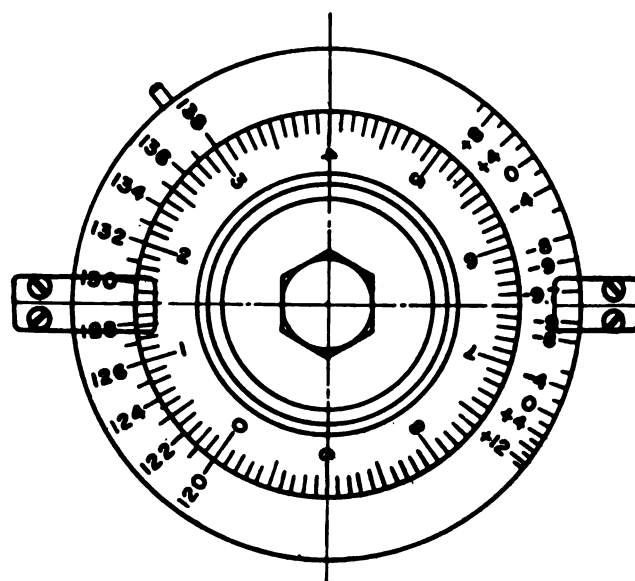

Figure 3-3.
a. The echo box dial is read under the left-hand transparent index. The outer dial number is read, followed by the inner dial number. Figure 3-3 shows the dial with a reading of 1291.5 (outer dial reading 129; inner dial reading 1.5).
*b.* The echo box dial reading is the approximate resonant frequency of the echo box, accurate to 12 mc./sec. or better. A second scale is provided on the dial for the correction of the dial reading to obtain the exact frequency. The reading of the second scale, read under the right index, is added algebraically to the reading of the first scale, to obtain the exact frequency. ("Added algebraically" means add the reading if its sign is plus and subtract it if its sign is minus). The exact frequency on the dial shown in Figure 3-3 is 1291.5 minus 9.3, or 1282.2 mc./sec.